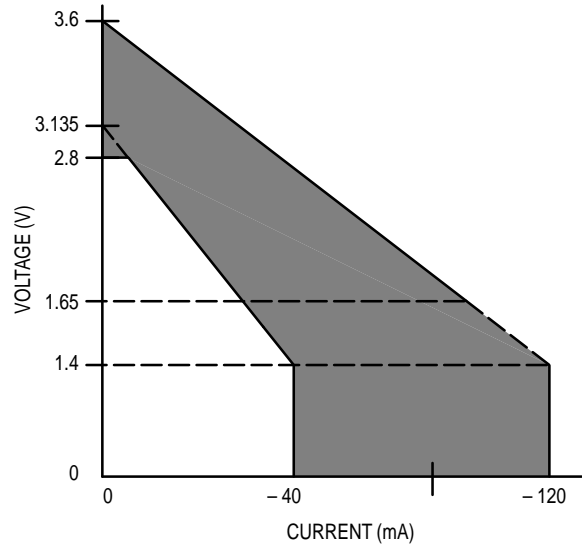

**Figure 2. AC Test Load**
Output Load ..... See Figure 2 Unless Otherwise Noted
3. Tested per AC Test Load, Figure 2.